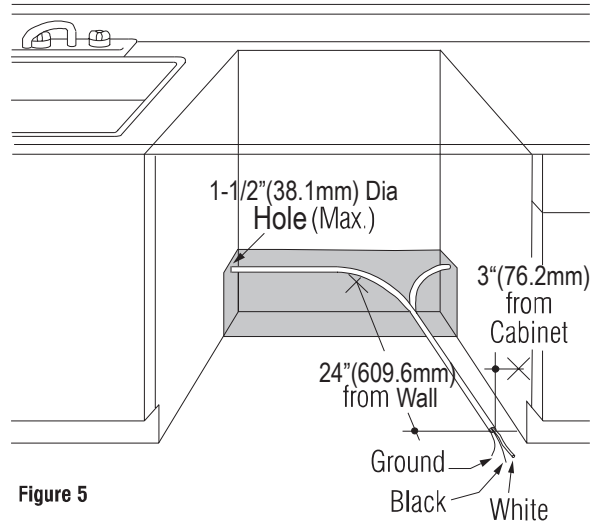

Figure 5
- The cable must be routed as shown in Fig. 5. Cable must extend a minimum of 24"(609.6mm) from the rear wall.